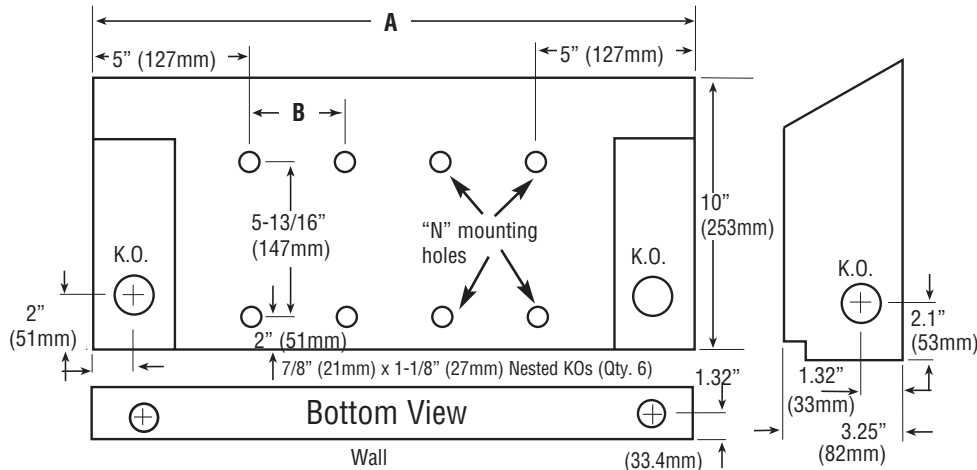

Fig. 1
4. Select knockout through which electrical wiring must be brought into heater. Wiring can enter from either end. See Fig. 1. Remove junction box cover by removing two (2) screws. Install strain relief leaving 6" (152mm) of wire inside junction box.